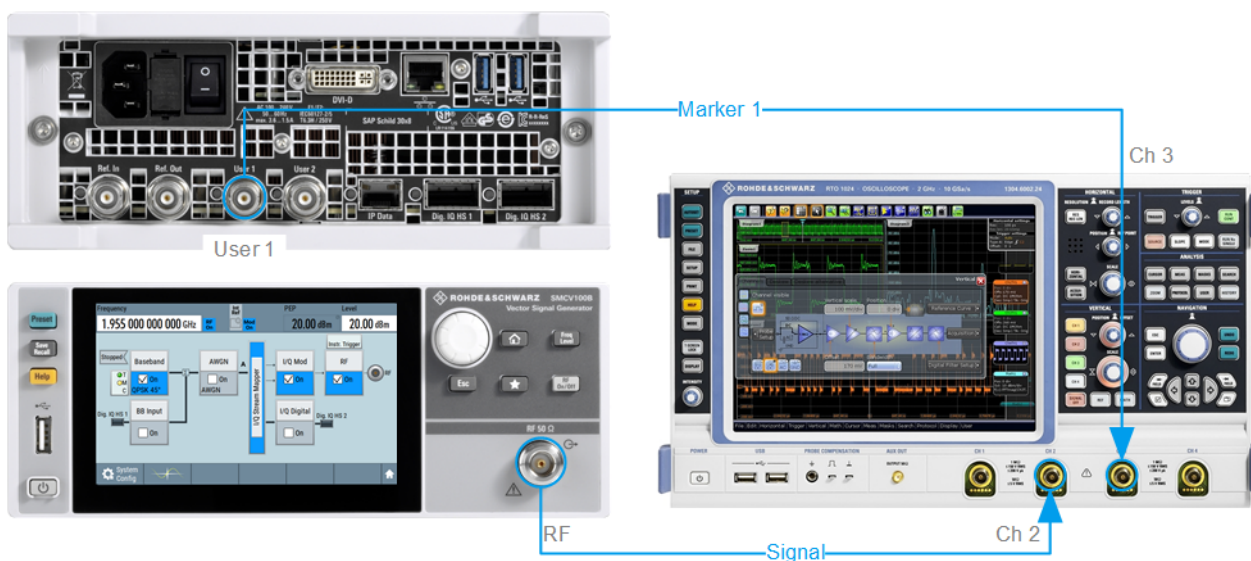

Figure 3-12: Simplified representation of a test setup for signal monitoring**
3. Use a suitable cable to connect the "User" 1 connector of the R&S SMCV100B to the monitoring instrument, for example an oscilloscope like R&S®RTO. See Figure 3-12.